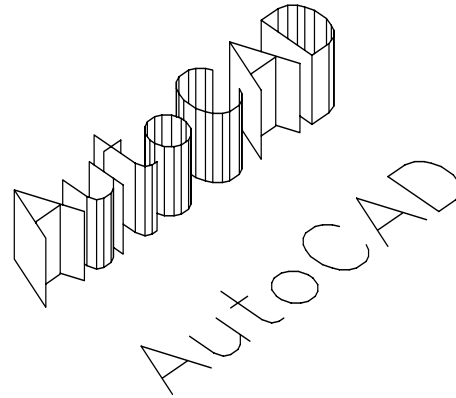

Figure 2-46 Text with and without thickness
4. To write text with thickness, first write a single line text and then change its thickness using any of the commands that modify the properties (Figure 2-46).